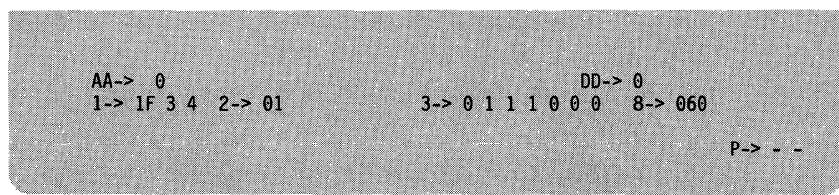

Figure 5-5. NWS Customized Screen
- e** Use the up or down cursor keys to select the workstation address. Figure 5-5 shows keyboard code 1F, selected for port 3 workstation 4.